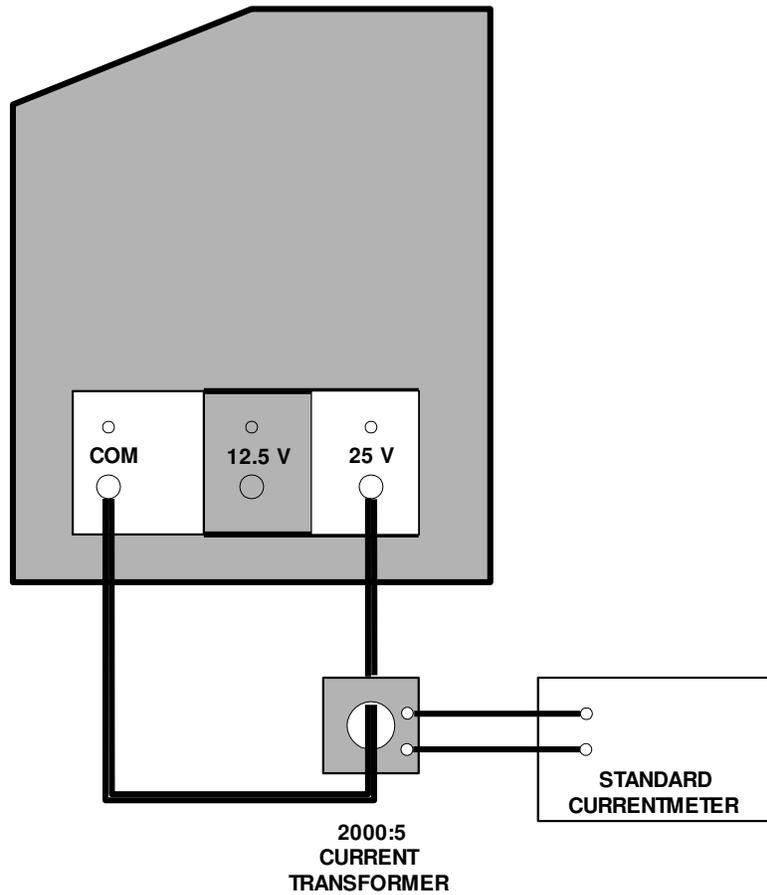

Figure 5-5. Currentmeter Calibration Set-up, 25 Volt Tap
- Connect the test equipment as shown in Figure 5-5. Energize the Test Set.